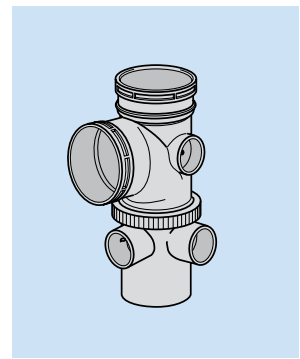

Fig. 31
- If at ground floor use spigot version push into buried drain lipseal (Fig. 31).
- If at first floor and above use socket version and solvent weld to stack (Fig. 31).